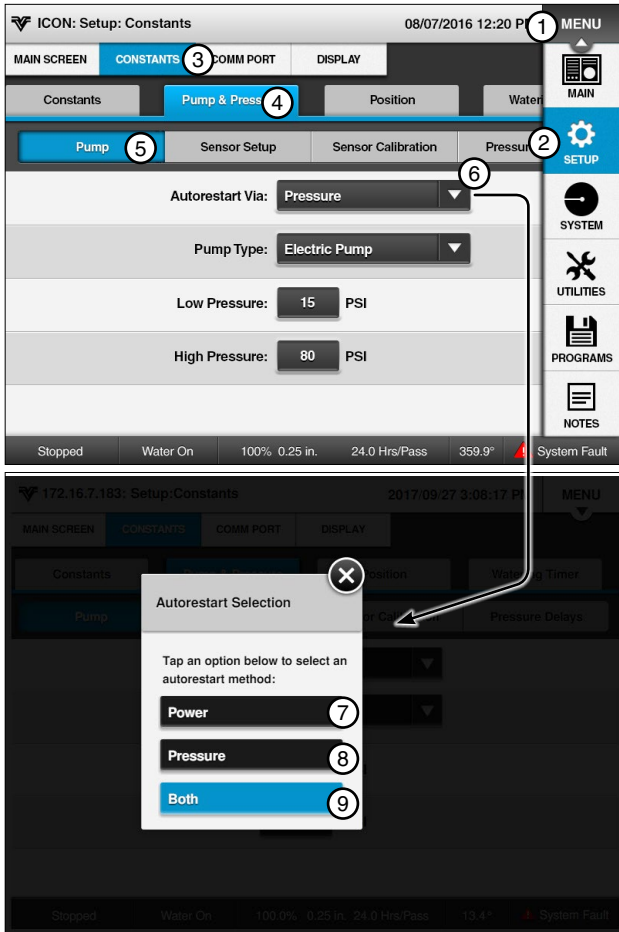

Figure 19-1 1. Menu 2. Setup 3. Constants 4. Pump 5. Pump 6. Auto Restart Via 7. Power 8. Pressure 9. Both
Push **Menu**, **Setup**, **Constants**, **Pump & Pressure**, and **Pump** for the Pump screen. Refer to Figure 19-1.
The Auto Restart option is used to restart the machine automatically. It will restart when either the pressure or the power have been returned to the machine after the machine was shut down by pressure, power, or both. The Auto Restart Via drop-down menu is used to select the shutdown input. Refer to Figure 19-1.
- If the machine is shut down by pushing the STOP button, by the stop-in-slot position, or by a programmed shutdown, Auto Restart is temporarily disabled by the control panel, and the Restart status changes to a No Restart status on the Main screen as shown in Figure 19-1.